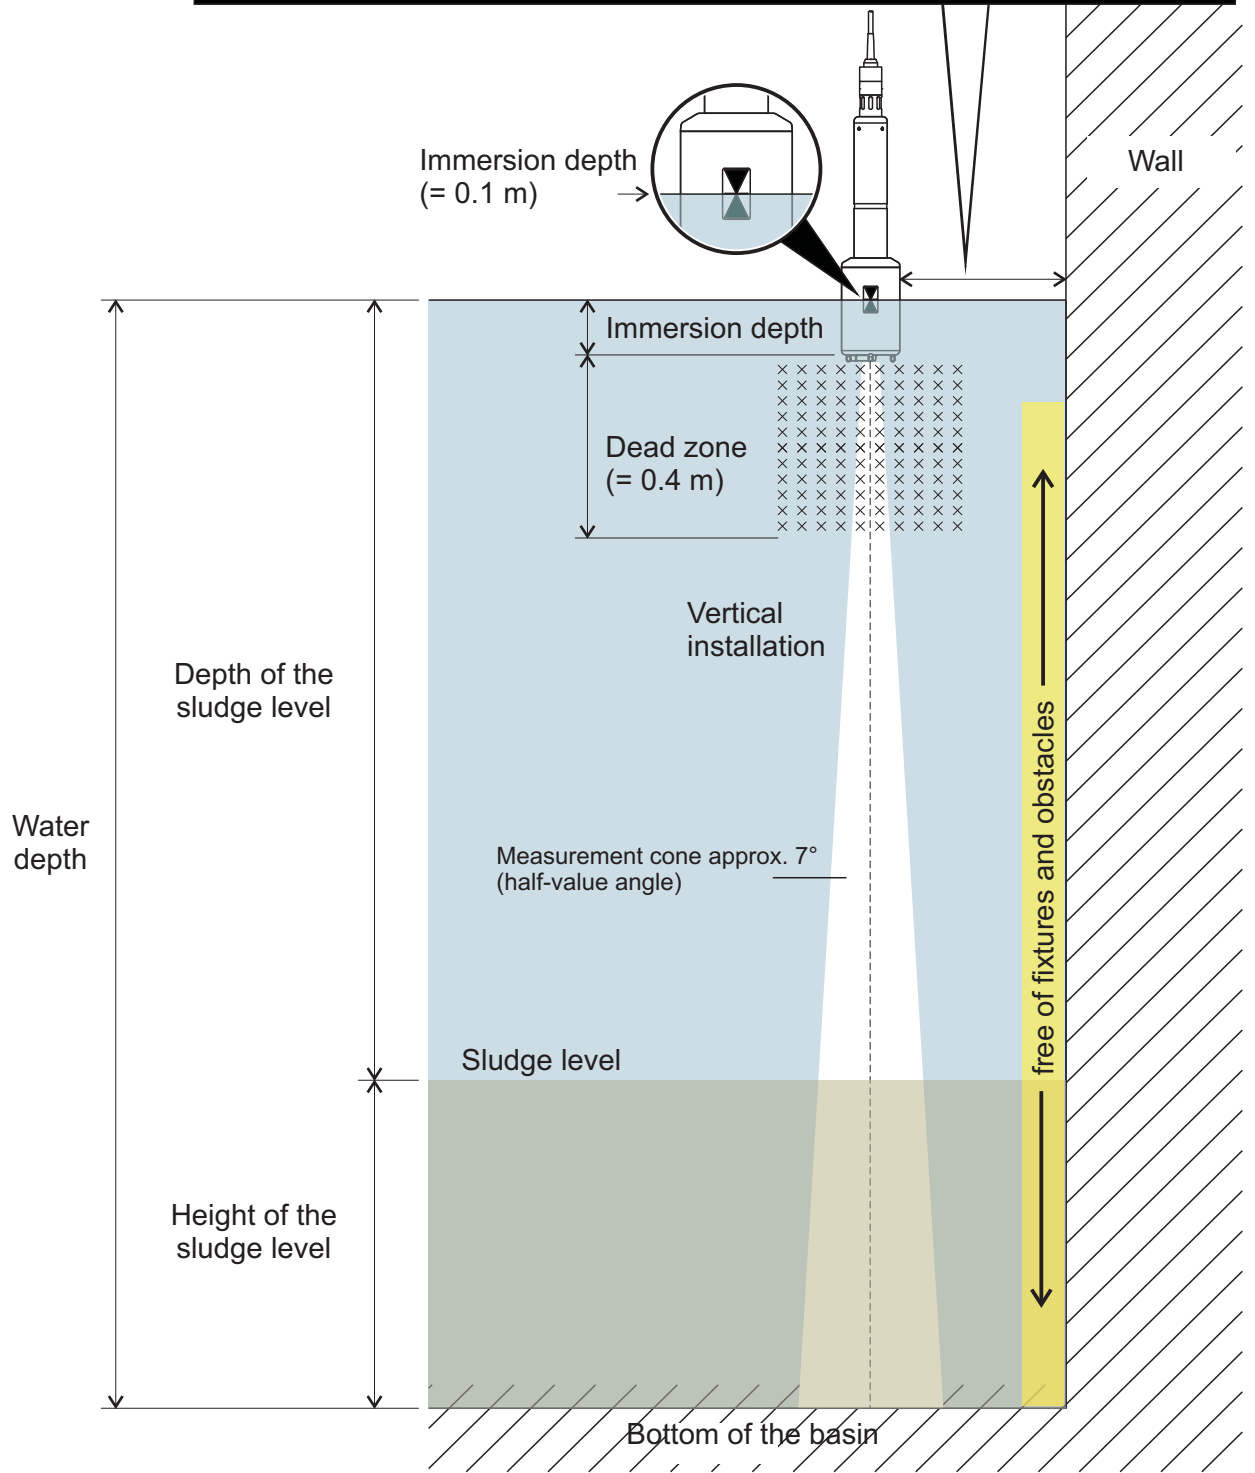

Fig. 3-1 Ideal installation environment
- Sufficient distance from the basin wall (minimum distance, see formula in Fig. 3-1).
| Measuring mode | Sludge level height | Details see Fig. 3-1 in section 3.3.2 Position of the sludge blanket level in relation to the bottom of the basin (SLH). |
| Immersion depth | 0.05 ... 0.10 ... 3.00 m | Distance between the surface of the ultrasonic transducer (underside of the sensor) and the surface of the water (see Fig. 3-1 in section 3.3.2). |
| Water depth | 0 ... 6 ... 18 m | Vertical distance between the surface of the water and the bottom of the basin at the measuring location (see Fig. 3-1 in section 3.3.2). The water depth can be determined by plumbing. |